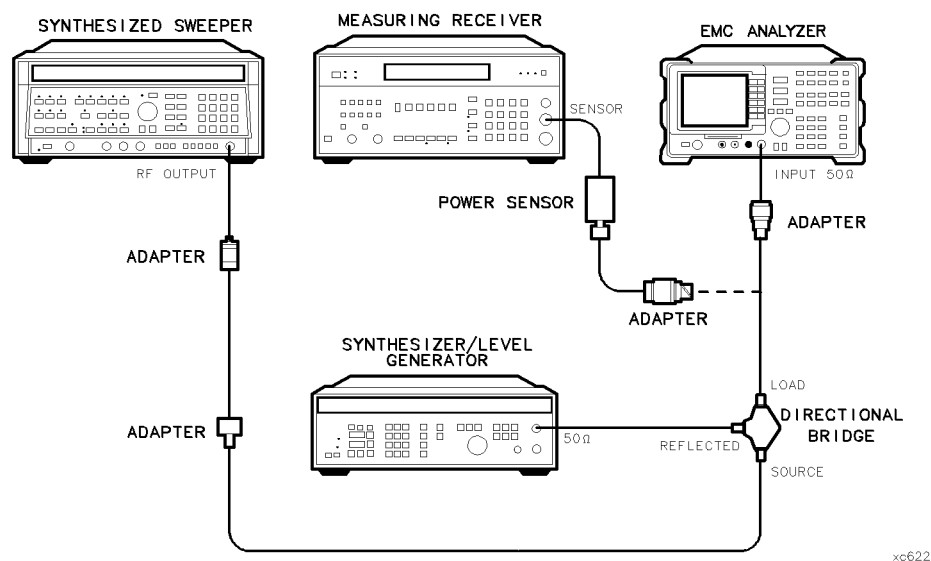

Figure 2-56. Gain Compression Test Setup, HP 8591EM
2. Connect the equipment as shown in Figure 2-56, with the load of the directional bridge connected to the power sensor.
15. Remove the EMC analyzer from the directional bridge and reconnect the measuring receiver power sensor to the directional bridge as shown in Figure 2-56.